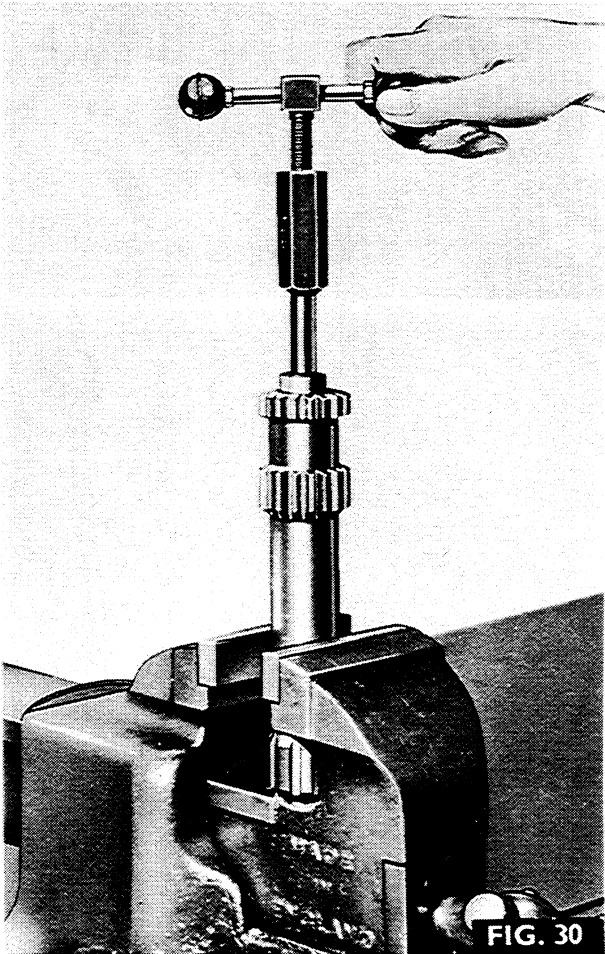

FIG. 30
4. Fig. 30. Locate the end of the bearing remover tool MF 202A underneath the bearing cage, inside the bore of the rear drive shaft as shown, then extract the bearing.